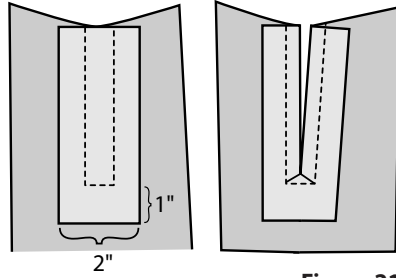

Figure 21
4. Stitch around the opening (on grain) the same width as the zipper teeth when it is inserted. Start at the bottom of opening and stitch across bottom, pivot, and stitch up one side. Repeat for other side of opening. Carefully cut between parallel stitching lines and diagonally to the corners. (Figure 21)